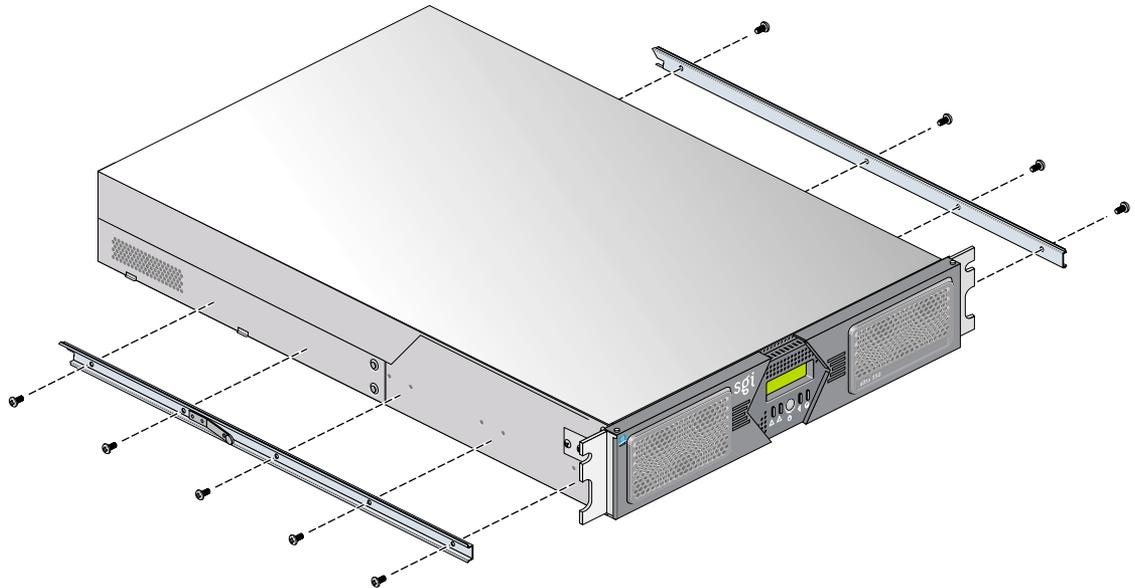

Figure 1-14 Attaching Chassis Rails to the Module Chassis
- Using four 10-24 x 1/4-in. screws, attach one of the chassis rails to the right side of the module chassis. Ensure that the rail is installed in the correct direction (see Figure 1-14).